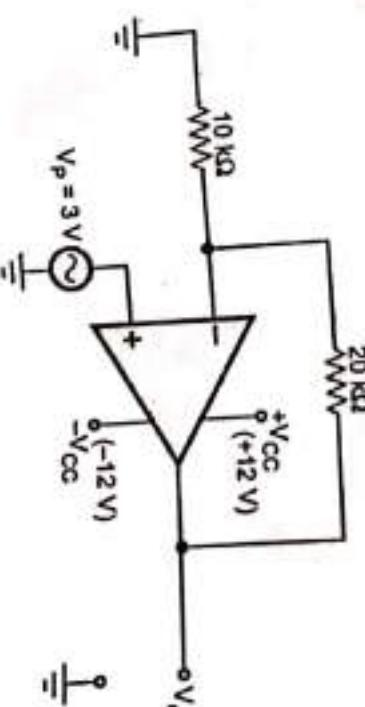

Fig. Q.48.1
Q.48 Calculate output voltage ' $V_o$ ' of Op - Amp circuit shown in Fig.Q.48.1. Draw I/P and O/P waveforms. [SPPU : May-17, Marks 6]